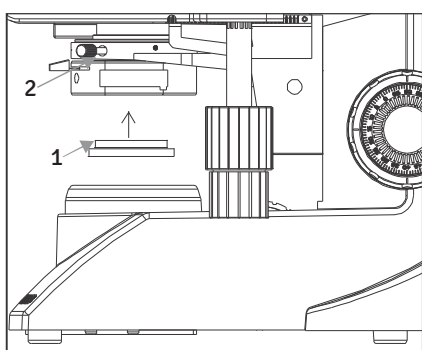

Fig. 16
- Fit the filter (1) into the bottom of the condenser (2) until it clicks into (Figure 16).